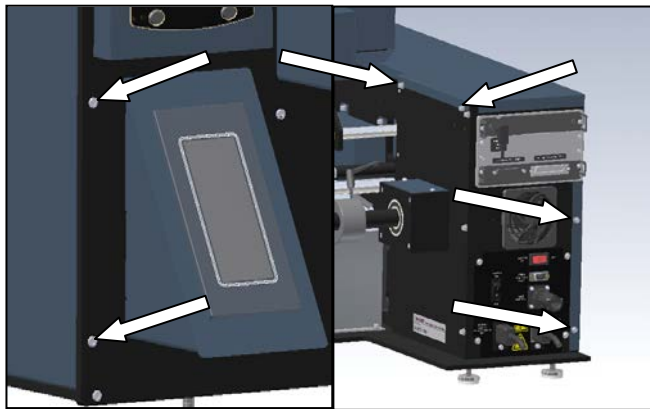

Figure 3-45. Frame Cover Screws
1. Remove the six screws holding the Frame Cover, set screws and Frame Cover aside (Figure 3-45).